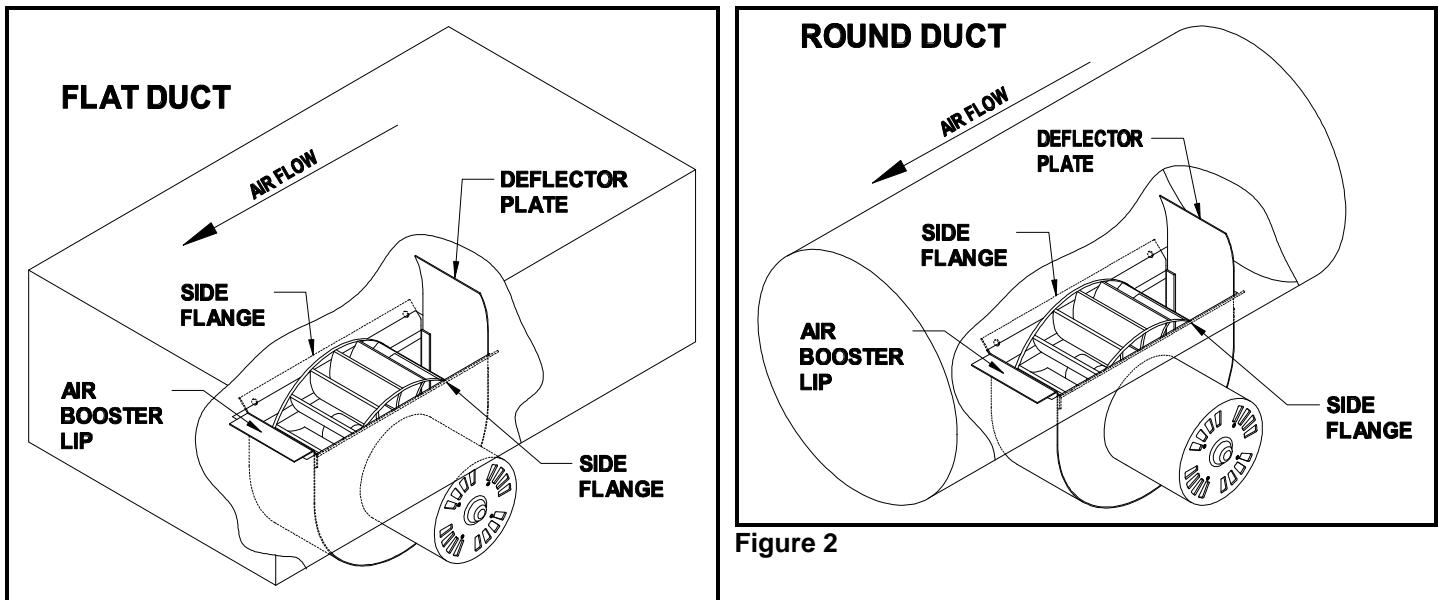

Figure 1
3. After the duct work has been properly cut, insert the Air Booster lip INSIDE the duct opening, (See Figs. 1 & 2) pushing the Air Booster housing forward and upward at the same time so that the Air Booster housing fits snugly into the opening. The side flanges should be on the OUTSIDE of the duct. (See Figs. 1 & 2) NOTE: Be certain that the Air Booster "Deflector Plate" (See Figs. 1 & 2), which curves above the blower wheel, is pointing in the direction of the air flow.
5. Fasten Air Booster to air duct with 4 sheet metal screws, pulling the Air Booster up snugly against duct. If necessary, bend the side flanges (Figs. 1 & 2) to conform to your particular duct size and shape.